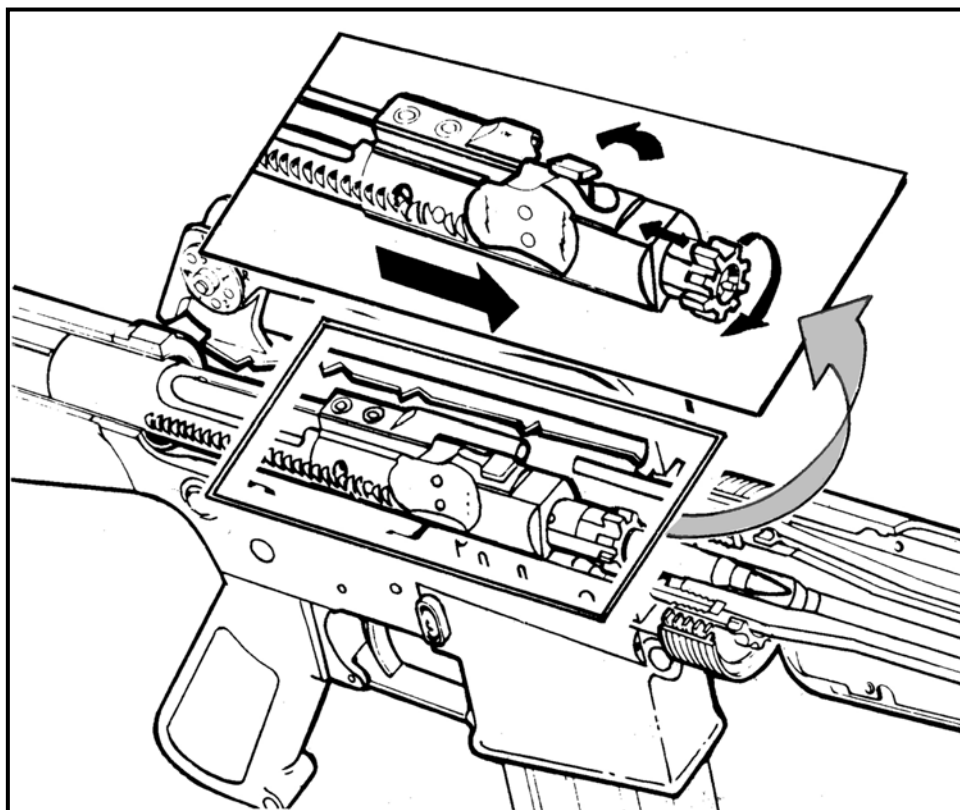
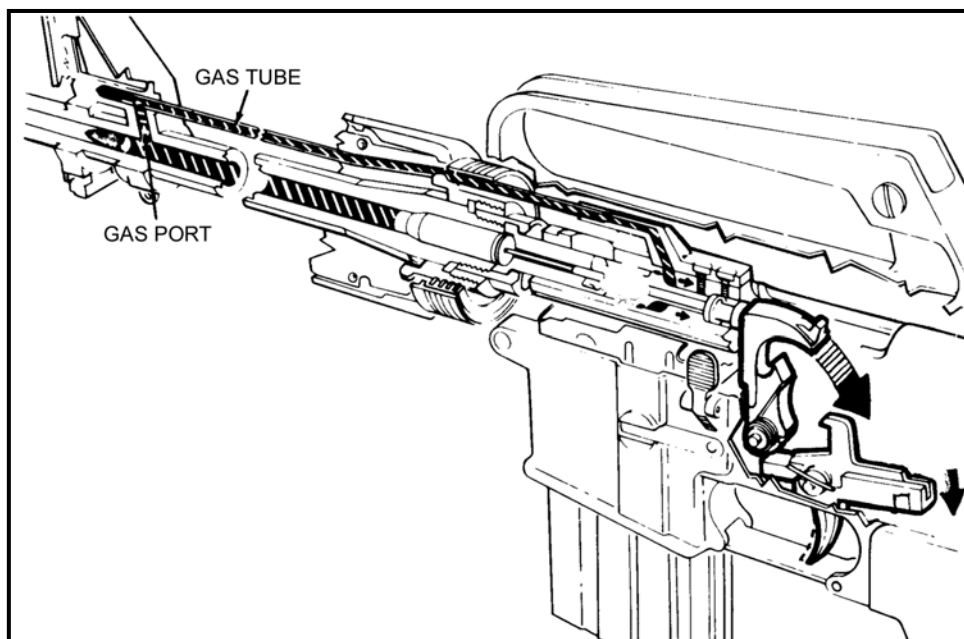

Figure 4-5. Locking.
Figure 4-6. Firing.
c. **Locking** (Figure 4-5). As the bolt carrier group moves forward, the bolt is kept in its most forward position by the bolt cam pin riding in the guide channel in the upper receiver. Just before the bolt locking lugs make contact with the barrel extension, the bolt cam pin emerges from the guide channel. The pressure exerted by the contact of the bolt locking lugs and barrel extension causes the bolt cam pin to move along the cam track (located in the bolt carrier) in a counterclockwise direction, rotating the bolt locking lugs in line behind the barrel extension locking lugs. The rifle is ready to fire.
d. **Firing** (Figure 4-6, page 4-6). With a round in the chamber, the hammer cocked, and the selector on SEMI, the firer squeezes the trigger. The trigger rotates on the trigger pin, depressing the nose of the trigger, and disengaging the notch on the bottom of the hammer. The hammer spring drives the hammer forward. The hammer strikes the head of the firing pin, driving the firing pin through the bolt into the primer of the round. When the primer is struck by the firing pin, it ignites and causes the powder in the cartridge to ignite. The gas generated by the rapid burning of the powder forces the projectile from the cartridge and propels it through the barrel. After the projectile has passed the gas port (located on the upper surface of the barrel under the front sight, Figure 4-5) and before it leaves the barrel, some gas enters the gas port and moves into the gas tube. The gas tube directs the gas into the bolt carrier. It passes through the key downward into a space between the rear of the carrier's bolt cavity and the rear of the bolt itself. The gas then expands. The bolt is locked